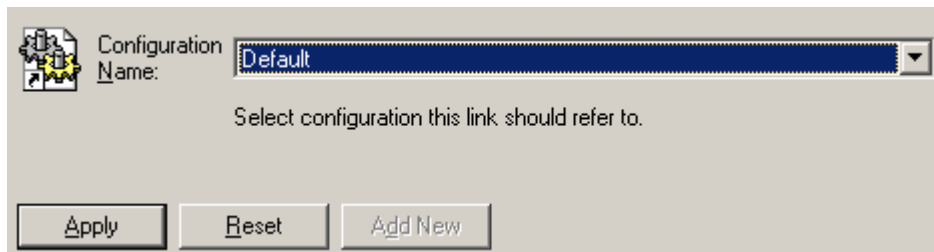

Figure 7.4. Linking a Node to an Alarm Configuration
5. Select the configuration from the drop-down list of configurations in the **Configuration Name** field, as shown in **Figure 7.4**. You can link one or more alarm configurations to a single node. The default alarm configuration is linked to the node automatically when no other configurations are linked to the node.